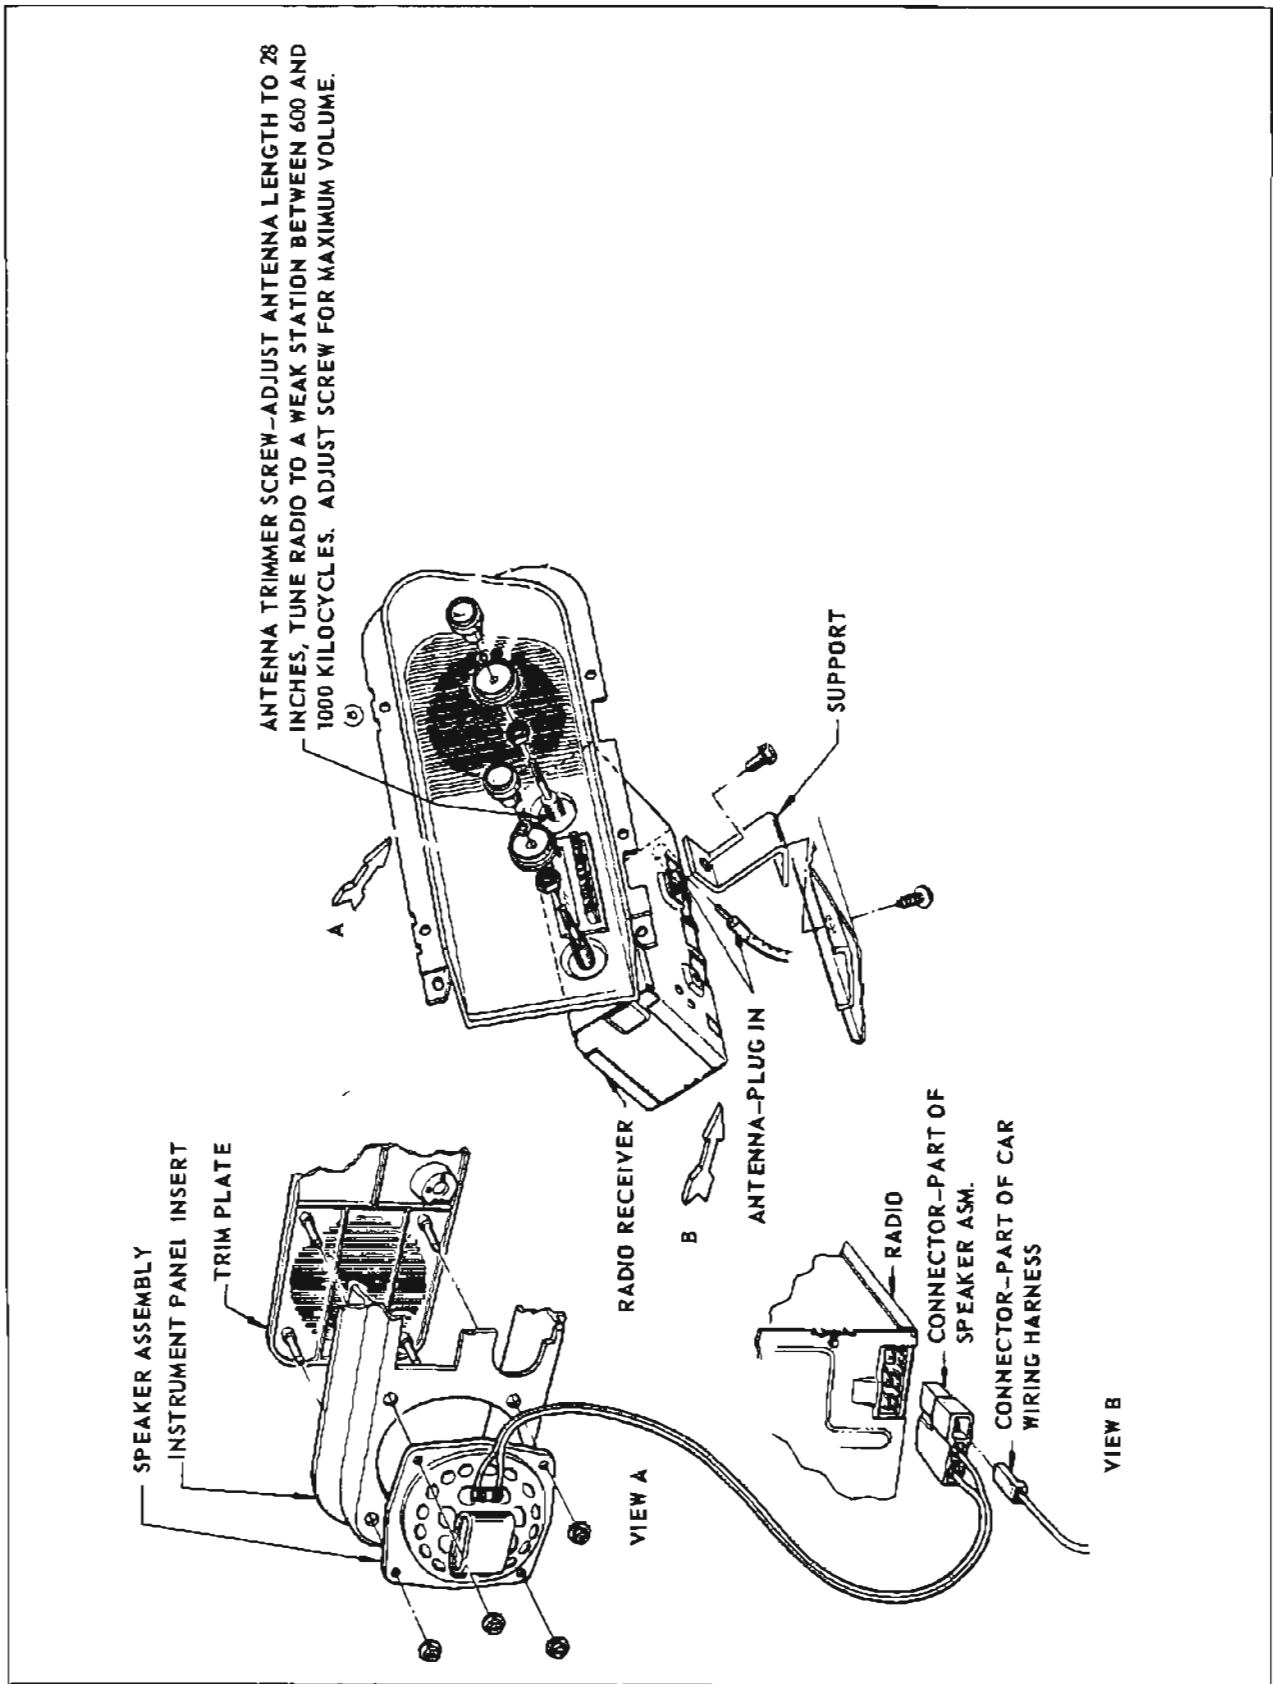

Figure 11-3—Radio Receiver and Speaker Installation
2. Remove five screws and take out exterior cover assembly (see Figure 11-3).
3. Remove both right inner and outer knobs from radio tuning control shaft and turn antenna trimmer screw for maximum volume (see Figure 11-3).